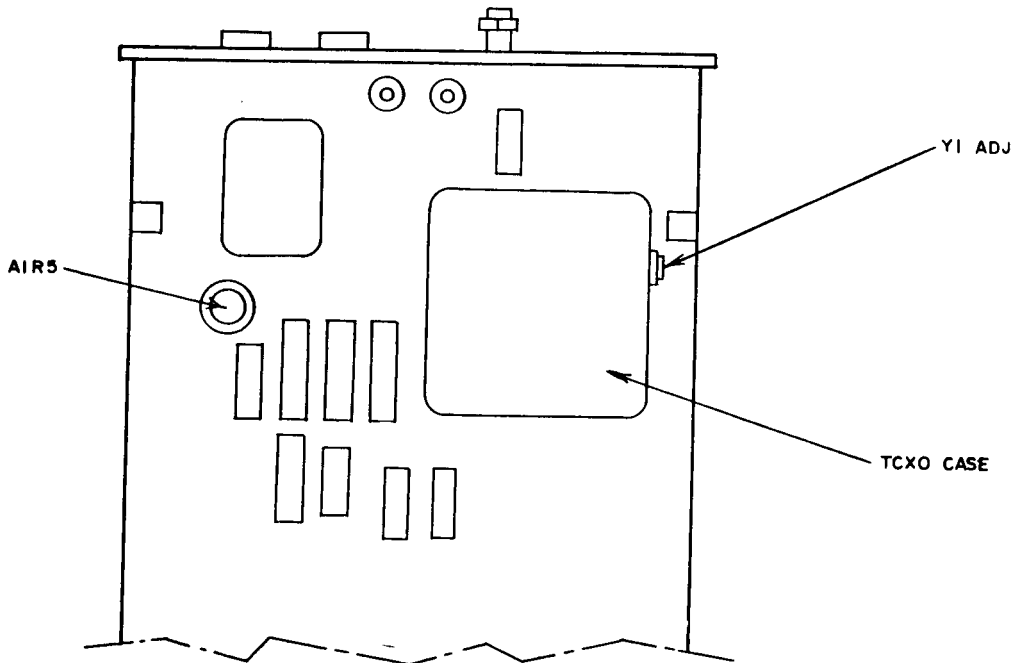

Figure 1. Test instrument - (Hewlett-Packard, Model 5303B) - bottom view.
- (1) Connect frequency counter **A** input to TI **OSC** jack (rear panel).
- (2) Adjust Y1 adjustment (fig. 1) as required to obtain frequency counter indication of exact frequency stamped on TCXO case (fig. 1).
- (1) Connect signal generator to 525 MHz jack, using adapter and cable.
- (2) Press **1 kHz RESOLUTION** pushbutton.
- (3) Adjust signal generator frequency for 500 MHz and amplitude to obtain 100 mV.
- (4) Adjust A1R5 (fig. 1) for stable indication of applied frequency on measuring system (R).
- (5) While reducing signal generator amplitude, continue adjusting A1R5 until maximum sensitivity is obtained.